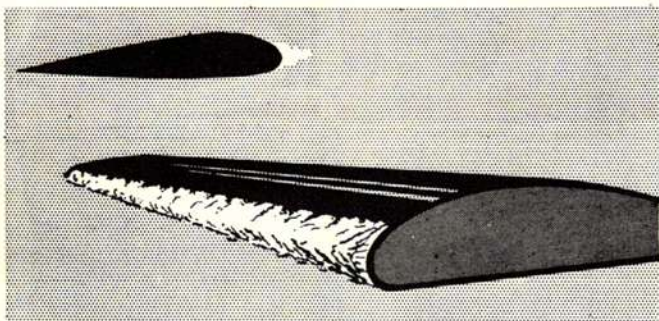

Figure 4-3-3. Rime ice on an airfoil.
**Rime ice.** Rime ice (fig 4-3-3) is opaque, rough, and white in appearance. It has a semicrystalline structure resembling crusted snow. The leading edges of the wings and tail surfaces are usually the only places affected by this ice. Rime ice is not as strong as clear ice and does not spread; hence, it is more easily removed.